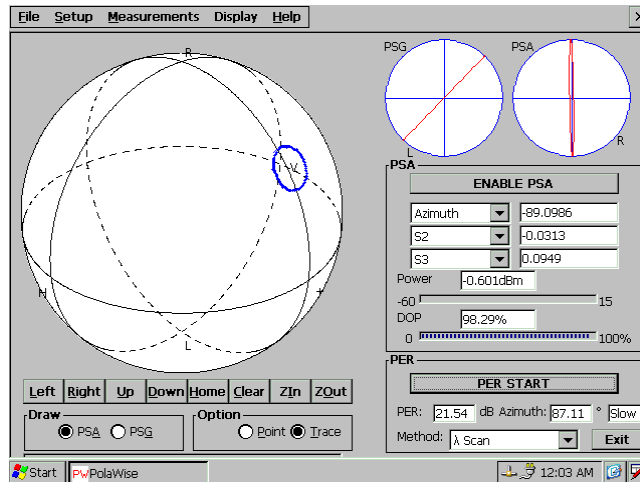

Figure 33 PER Measurement Results
- Once a sufficient section of a circle has been traced out, click the "**PER STOP**" button to calculate the PER and the key alignment angle (Figure 33).